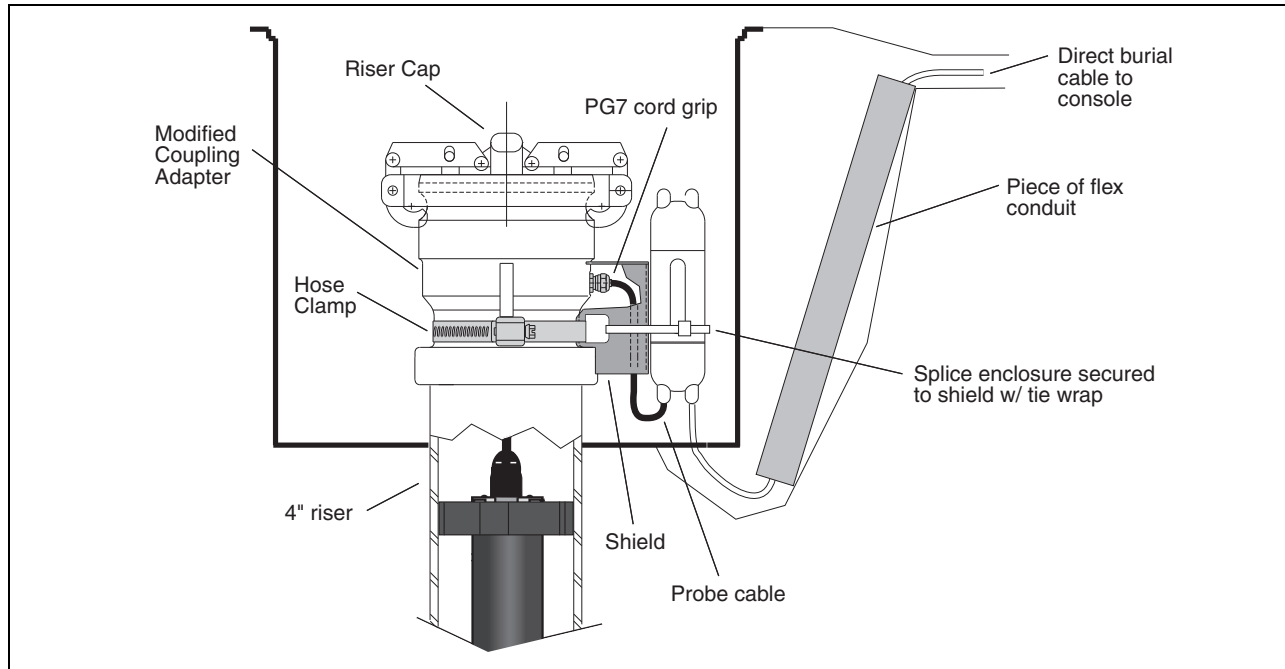

Figure 13. Mag Probe Vapor Extractor Riser Installation - w/Coupling Adapter
12. Position the Shield-Fitting over the PG7 cord grip and secure with the hose clamp (see Figure 13 on page 15).